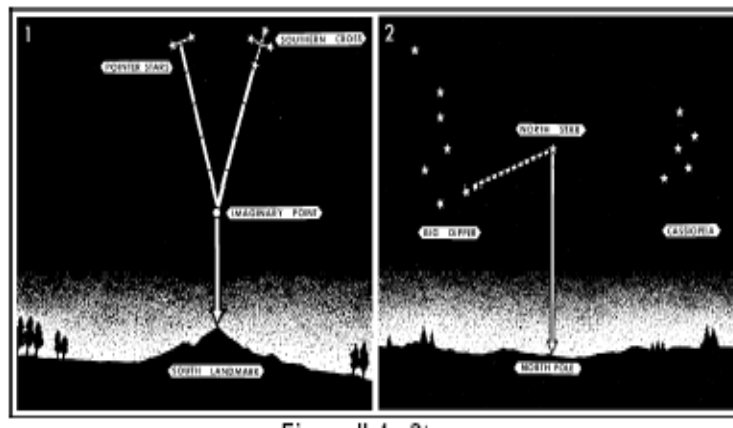

Figure 11-10. Stars.
- Using the stars (Figure 11-10), the—